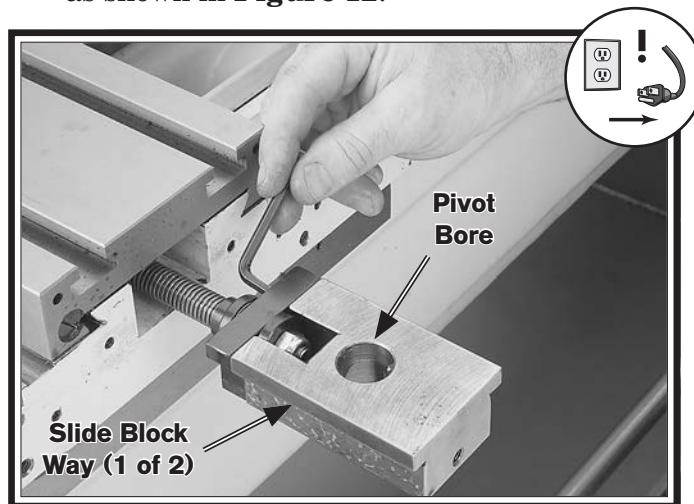

Figure 12. Slide block installation.
- 14.** Secure the slide block onto the end bracket with the two cap screws removed in **Step 11**, as shown in **Figure 12**.
- 15.** Apply a thin coat of white lithium grease to the inside of the pivot bore and both slide block ways (see **Figure 12**).